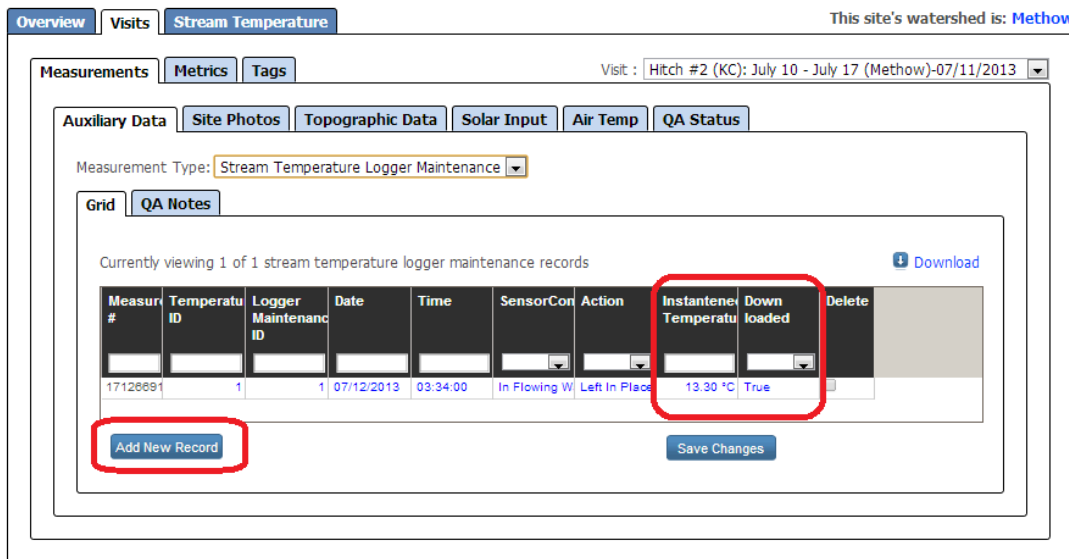

Figure 2. Adding a new maintenance record. Transcribe the download time and instantaneous temperature from paper data forms and field notes.
10. If additional maintenance records need to be added, go to the Site Detail page (Figure 2).